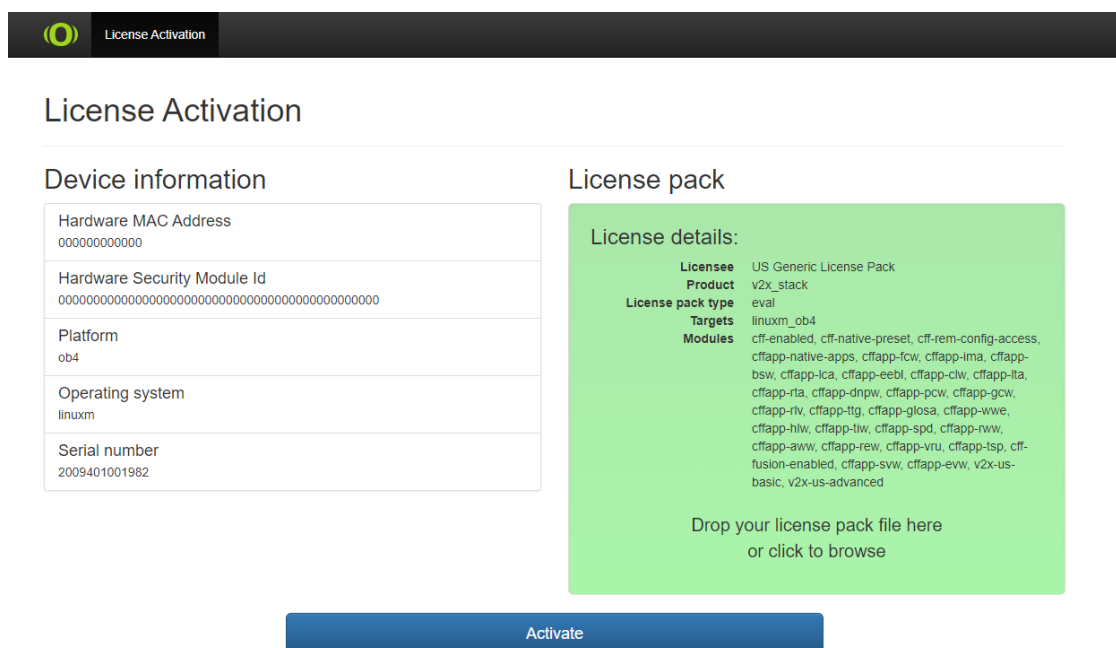

Figure 43. License Activation page
4. On the License Activation page, drag and drop the license file (\*.pack) onto the gray area or click on the area and select the file in the browser as shown in Figure 43.